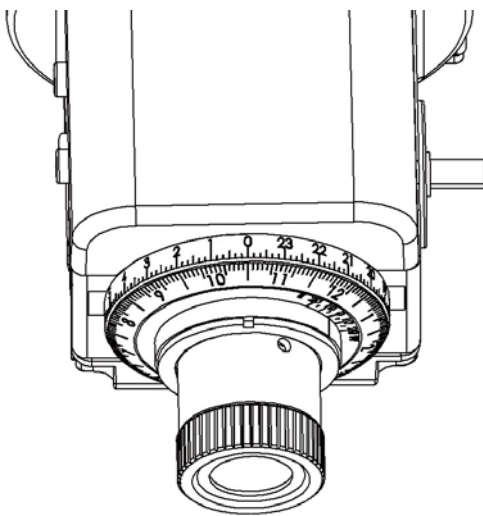
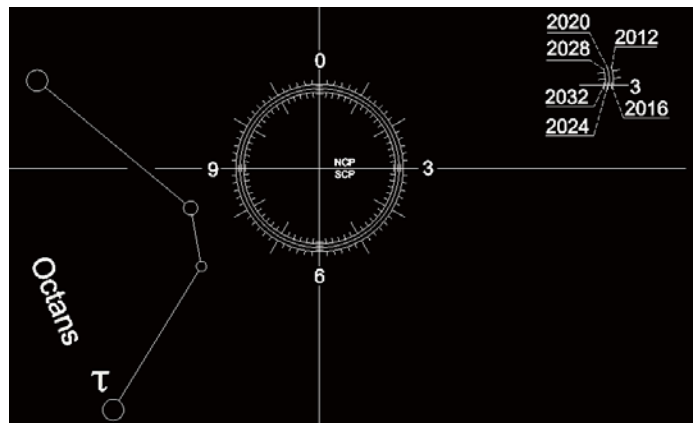

Fig 30
Fig 31
6. Turn the **Date Graduation Circle** to align Oct 31 to the 0 of the **Time Graduation Circle**. Then hold the **Date Graduation Circle** and turn the eyepiece/mount to align the **Time Meridian Indicator** to the 0 of the **Time Meridian Circle** (Fig 30). Then, when looking through the eyepiece, you should see the pattern aligned as shown in Fig 31. If the pattern is oriented differently, then scales need readjustment. To readjust, turn the **Date Graduation Circle** to align Oct 31 to the 0 of the **Time Graduation Circle**. Then hold it and turn the eyepiece/mount to orient the pattern in the position shown in the picture below right. Loosen the **Time Meridian Indicator** calibration screw and move the meridian indicator to align it to the 0 of the **Time Meridian Circle** without turning the **Date Graduation Circle** and eyepiece/mount. Tighten the Time Meridian Indicator calibration screw. See through the eyepiece. Now the pattern should still be in the right position.